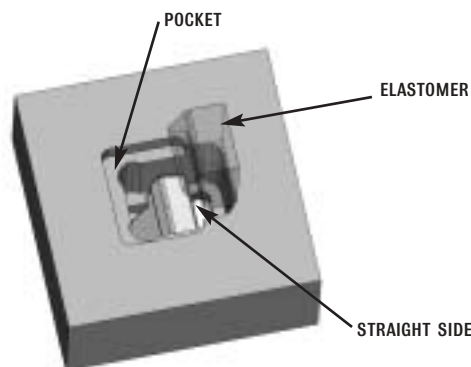

FIGURE 2 INSERT THE ELASTOMER WITH THE THIN END ON THE STRAIGHT SIDE OF THE CONTACT.
3. Install the elastomer on the straight side of the first contact; the thin end fits between the contact and the insert, or contactor housing wall, and the wider portion rests on the first contact, **FIGURES 2 AND 3**.